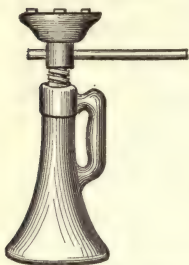

FIG. 32.—Jackscrew.
37. Screw. When an enormous force must be exerted, as in lifting a building, such machines as the lever, pulley, and inclined plane will not do, because we cannot get enough mechanical advantage. A screw, such as the **jack-screw** (Fig. 32), is sometimes used for this purpose. In one complete turn of the screw, the weight is lifted the distance between two successive threads, which is called the **pitch** of